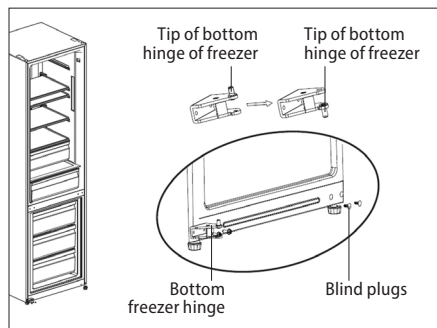

Fig. 3
5. Remove the blind plugs and the bottom hinge (Fig. 3).
6. Move the tip for fixing the freezer door to the other side of the freezer bottom hinge (Fig. 3). Install the freezer bottom hinge on the other bottom side of the unit as shown in Fig. 3.